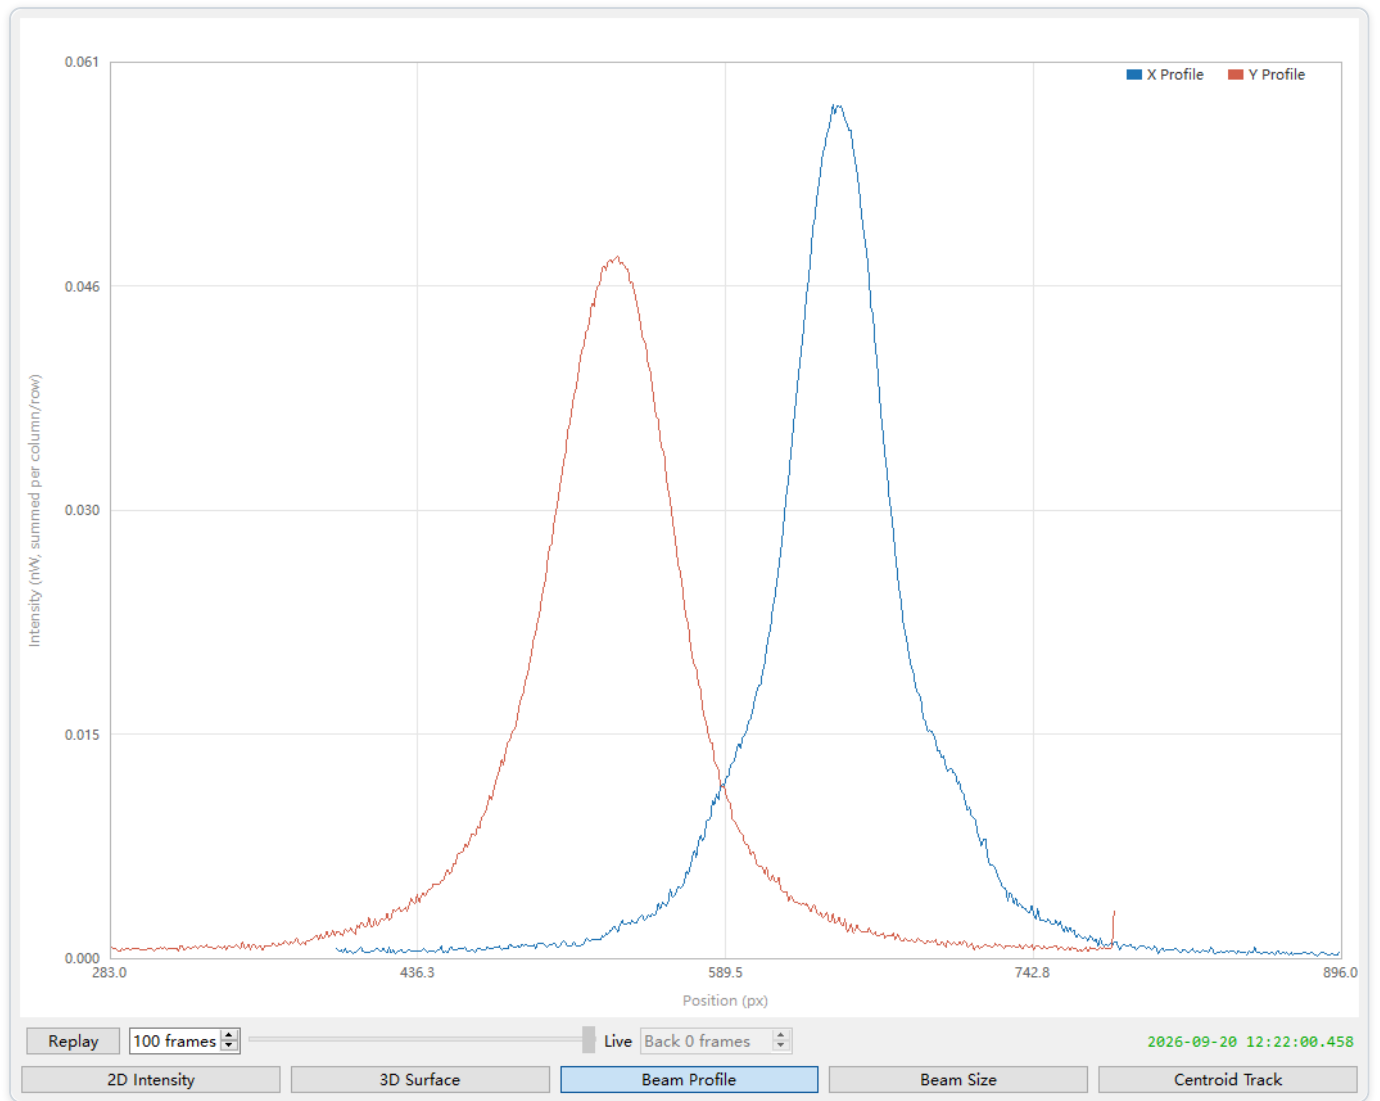

Figure 10: Beam Profile
Beam Profile: the horizontal (X) and vertical (Y) intensity curves through the centroid — use it to judge beam quality and spot sidelobe or double-peak structure (Figure 10):